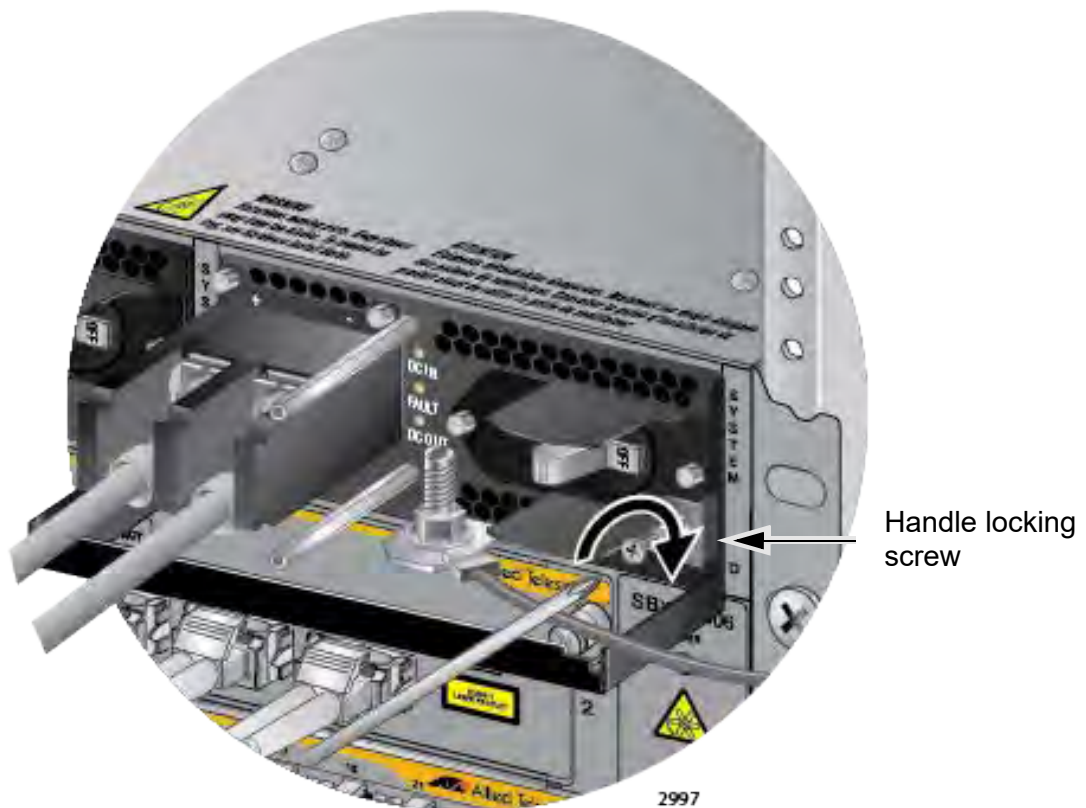

Figure 150. Tightening the Handle Locking Screw
8. With a #2 Phillips-head screwdriver, tighten the handle locking screw to secure the power supply to the chassis. See Figure 150 on page 226.